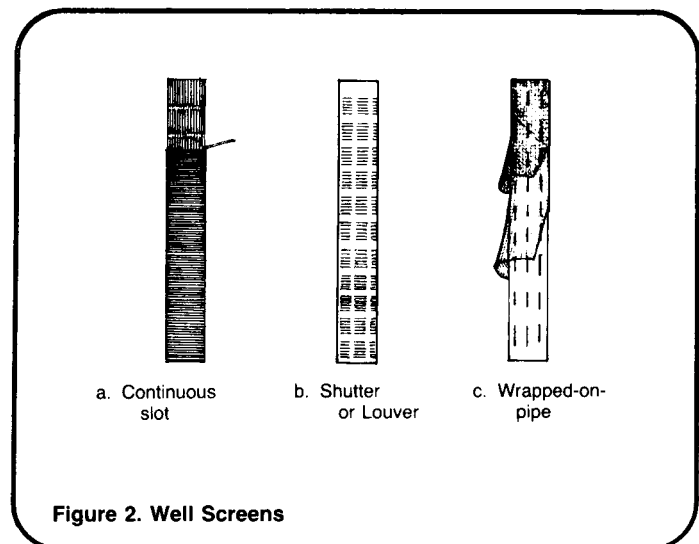

Figure 2. Well Screens
2. A design drawing of the well screen similar to Figure 2.